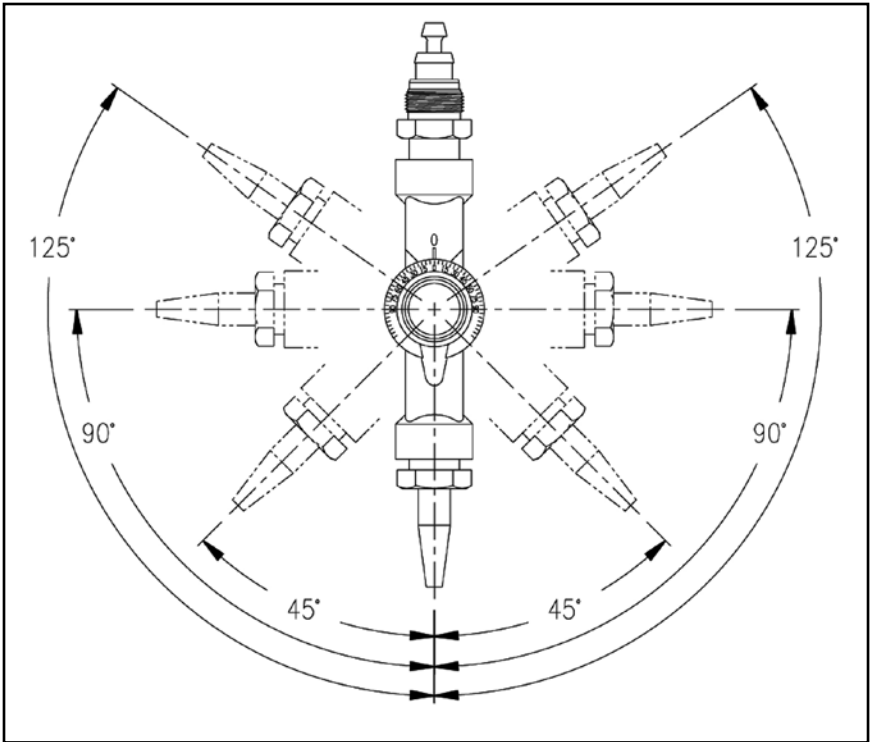

Figure 1: Head Adjustment Range
This head is designed to be used as an accessory for Style 4700 machine cutting torches to permit bevel cuts. See Figure 1 for range of angular adjustments. Indexing marks of five (5) degree increments are forged in the face to facilitate adjustment.